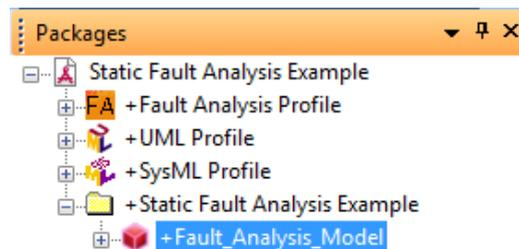

Figure 6: Select the *Fault Analysis Model* that you wish to create an *Model and Optimisation Definition View* for
1. Right click on the *Fault Analysis Model* that you wish to create a *Model and Optimisation Definition View* for and select “New Fault Analysis View” → “Model and Optimisation View” as shown in Figures 6 and 7